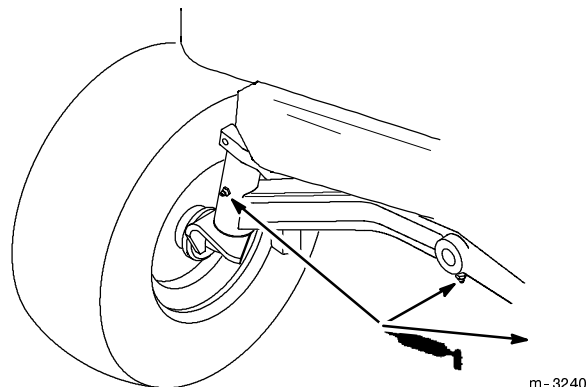

Figure 29
1. Lubricate the left-hand and right-hand spindles until grease begins to ooze out of the bearings (Fig. 29).
2. Lubricate the front axle pivot (Fig. 29).